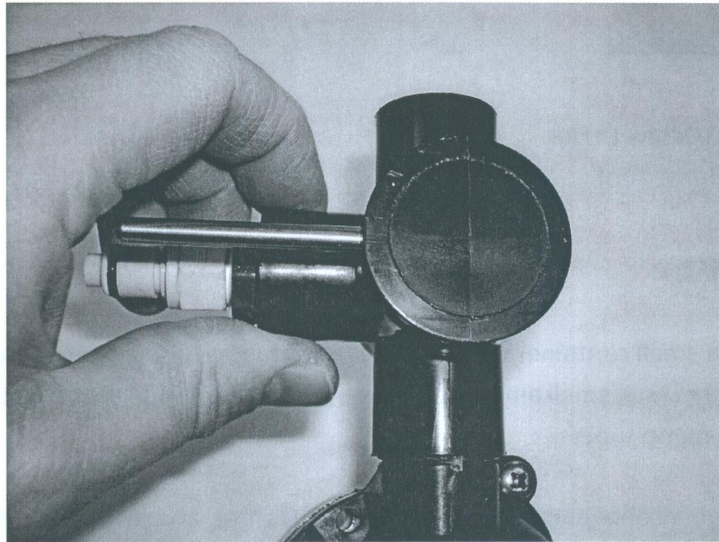

Fig 26
- Rotate the silver handle on the three way valve 90 degrees. Refer to figure 26